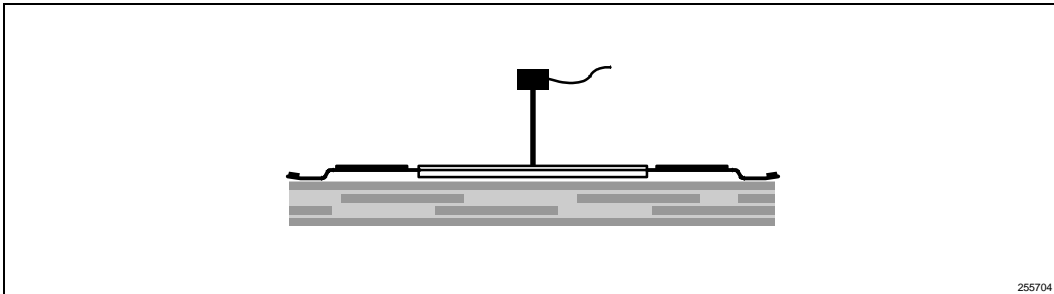

Figure 27. Technique for Measuring Case Temperature (T_c) on TCP
- The thermocouple should be attached at a 90° angle as shown in Figure 27.